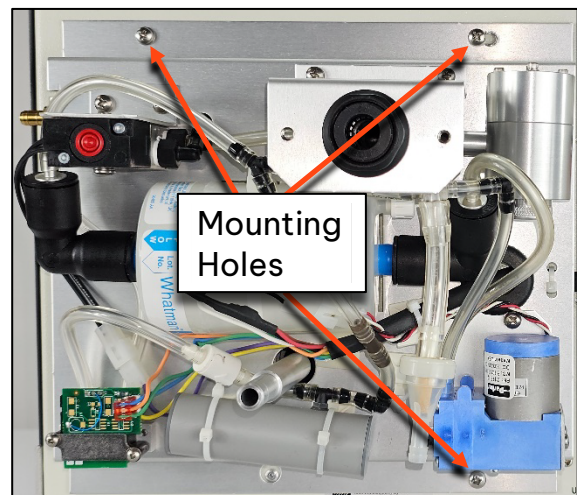

Figure 2-8 Dilution Flow System Mounting Screw Locations
- d. Align the mounting holes and install the three mounting screws (**Figure 2-8**) to secure the assembly to the main body of the monitor.